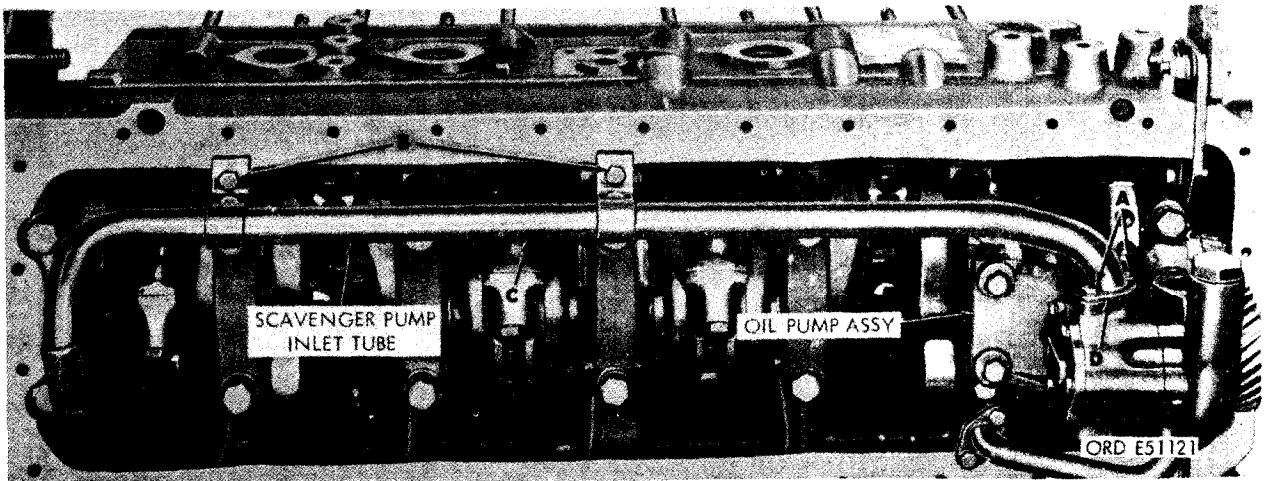

FIGURE 279. REMOVING OR INSTALLING SCAVENGER PUMP INLET TUBE.
- (2) Figure 279. (A) Remove two 1/4 x 7/8 cap screws and 1/4-inch lock washers securing scavenger pump inlet tube to pressure oil pump. (B) Remove two 5/16 x 5/8 cap screws and 5/16-inch lock washers securing scavenger pump inlet tube to crankcase. (C) Remove scavenger pump inlet tube. (D) Remove and discard scavenger pump inlet tube gasket.